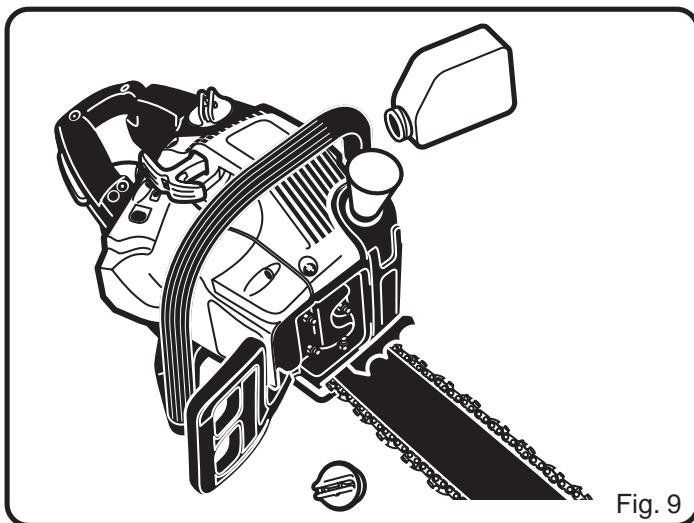

Fig. 9
1. Carefully pour the bar and chain oil into the tank. See Figure 9.